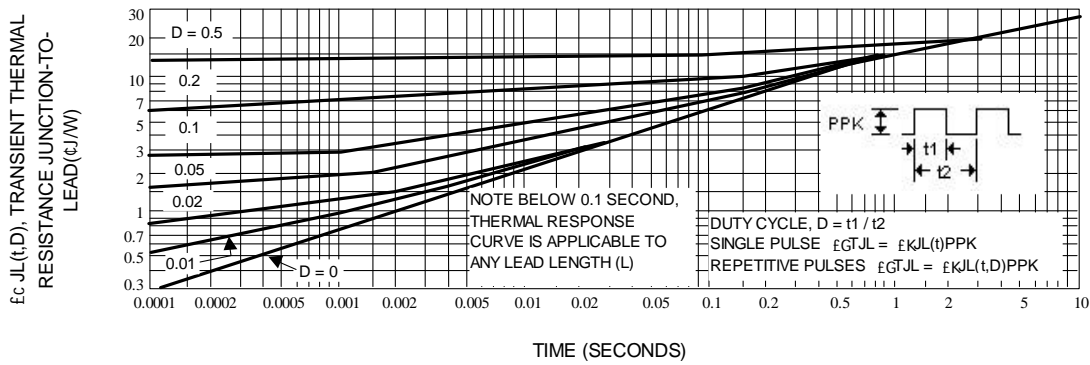
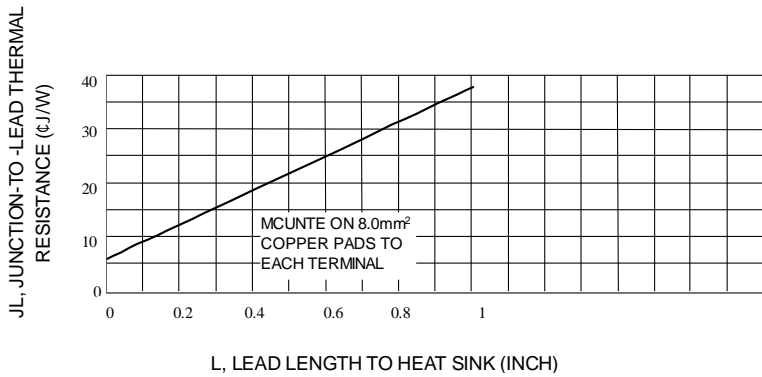
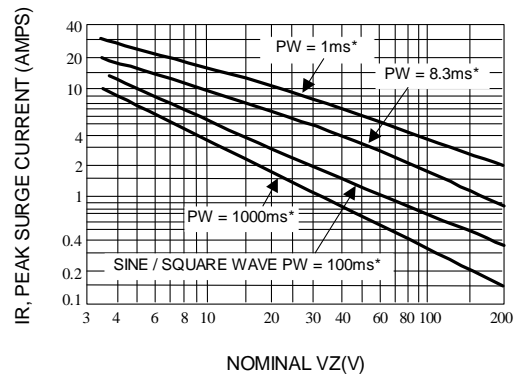
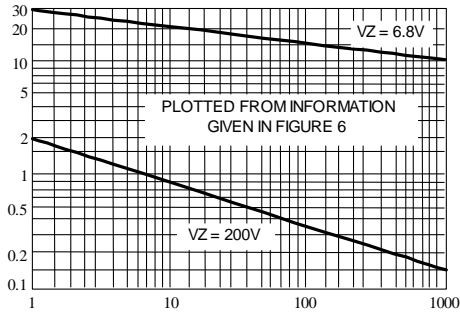

Fig. 3-TYPICAL THERMAL RESPONSE
Fig. 4-TYPICAL THERMAL RESISTANCE
Fig. 5-MAXIMUM NON-REPETITIVE SURGE CURRENT VERSUS NOMINAL ZENER VOLTAGE (SEE NOTE 3)
Fig. 6-PEAK SURGE CURRENT VERSUS PULSE WIDTH(SEE NOTE 3)
3. SURGE CURRENT (I_r) - Surge current is specified as the maximum allowable peak, non-recurrent square-wave current with a pulse width, PW, of 8.3 ms. The data given in Figure 5 may be used to find the maximum surge current for a square wave of any pulse width between 1 ms and 1000ms by plotting the applicable points on logarithmic paper. Examples of this, using the 6.8v and 200V zeners, are shown in Figure 6. Mounting contact located as specified in Note 3. ($T_A=25 \text{ }^\circ\text{C}$).
θ_{JT_L} is the increase in junction temperature above the lead temperature and may be found from Figure 3 for a train of power pulses or from Figure 4 for dc power.
Data of Figure 3 should not be used to compute surge capability. Surge limitations are given in Figure 5. They are lower than would be expected by considering only junction temperature, as current crowding effects cause temperatures to be extremely high in small spots resulting in device degradation should the limits of Figure 5 be exceeded.
*** Data of Figure 3 should not be used to compute surge capability. Surge limitations are given in Figure 5. They are lower than would be expected by considering only junction temperature, as current crowding effects cause temperatures to be extremely high in small spots resulting in device degradation should the limits of Figure. 5 be exceeded